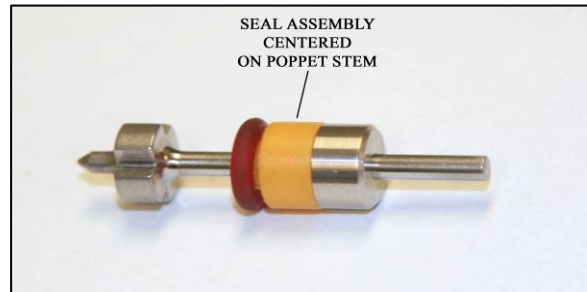

Figure 6
14. Slide the Seal Buttress (100062-1) on the poppet shaft with the chamfer facing away from the Poppet tip. The seal assembly and buttress should be centered as much as possible on the stem. **See Figure 6**